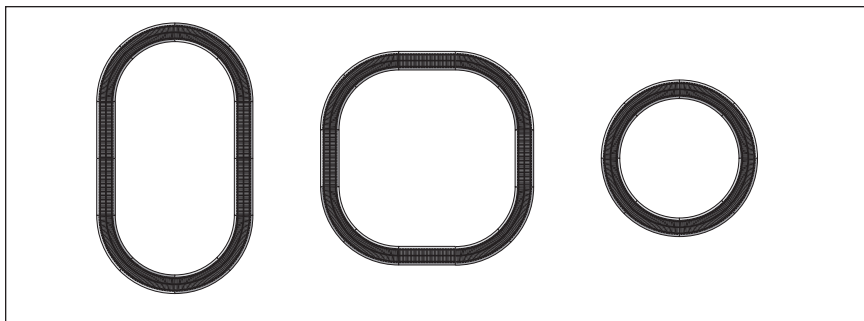

Figure 1. Track layout ideas
**Y**our set comes with eight curved, three straight, and one terminal section of track. Figure 1 provides some examples of layouts that you can build with these track sections.